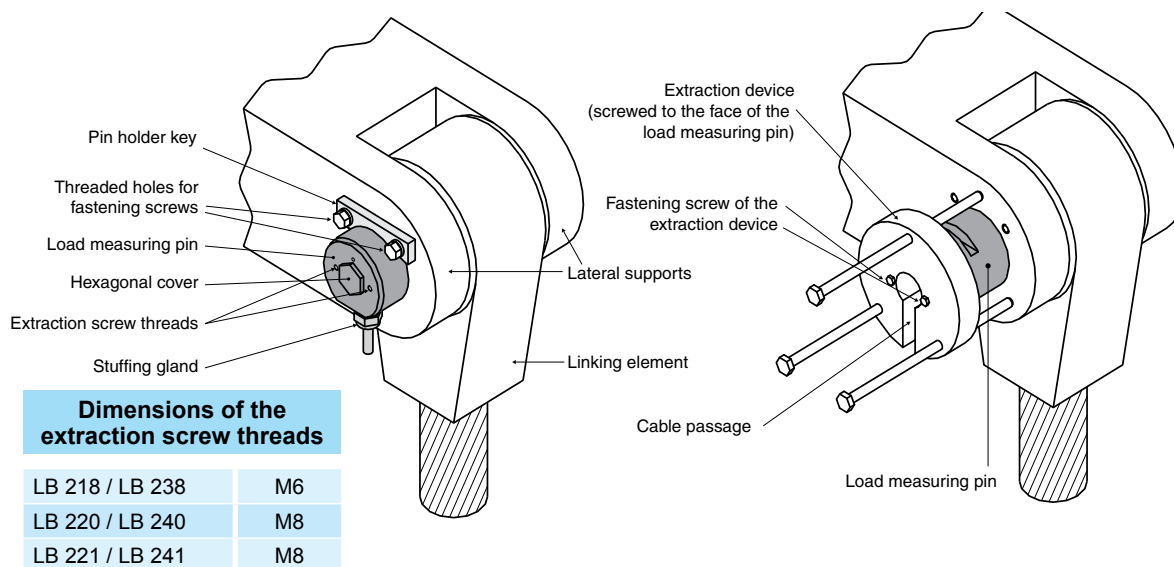

Fig. 2-5. Pulling out a LB Series Load Measuring Pin by means of an extraction device
- Load measuring pins LB/LE/LU 218 - 221, LB 238 - 241, LE 418 - 421 and LE 618 - 621 are fitted with two extraction screw threads at each end (see Fig. 2-5 & Fig. 2-6) which should be used to fix the extraction device.
Use this thread to fix an extraction device (not provided by MAGTROL, see Fig. 2-5). We recommend fixing it on the same side as the stuffing gland (LB 210, LE 4XX and LE 6XX series load pins with integrated cable) or the electric connector (LB 230, LE/LU 2XX, LE 4XX and LE 6XX series load pin with connector) to avoid their damage if the pin is pulled out on the opposite end (see Fig. 2-5).